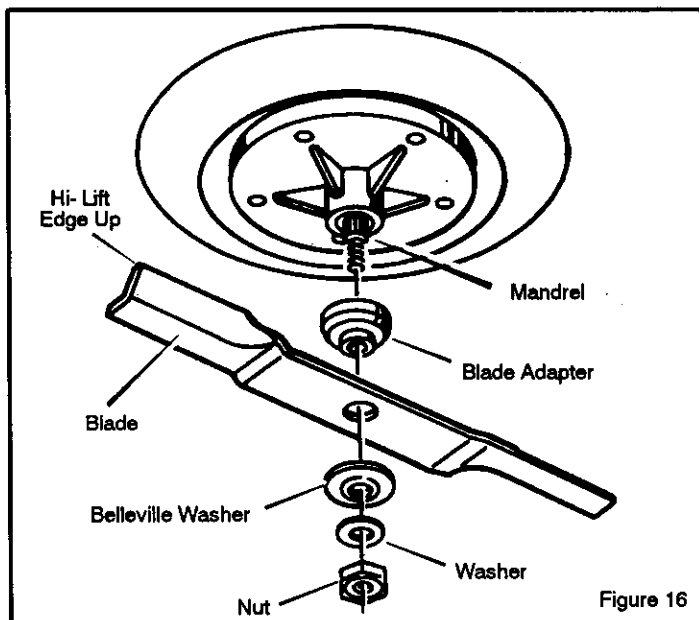

Figure 16
3. Remove the nut that holds the blade (Figure 16).
6. Mount the blade and blade adapter on the mandrel (Figure 16).